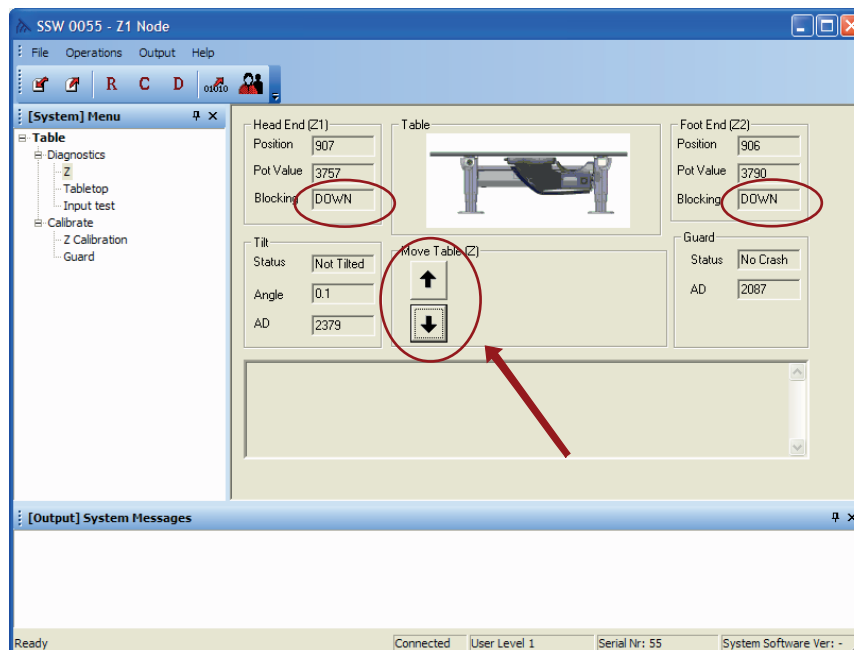

Fig. 4-155
12. Press the *Arrow Down* button and keep it pressed until the text “NO” is visible in the *Blocking edit box* for both the *Head End* and the *Foot End*, see Fig. 4-155 .